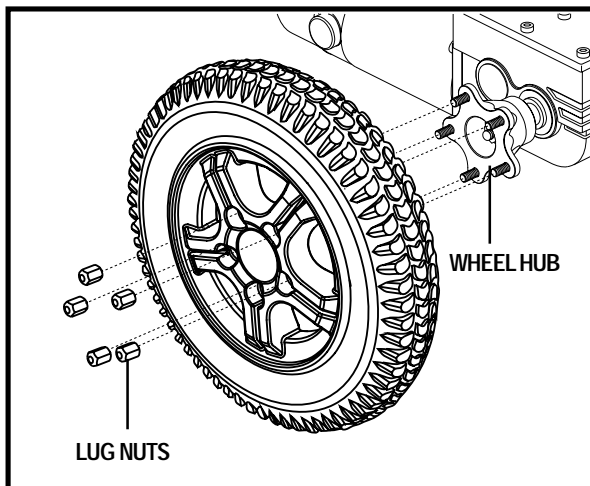

Figure 32. Quantum 6000 Drive Wheel
4. Remove the (5) lug nuts from the wheel hub. See figure 32.